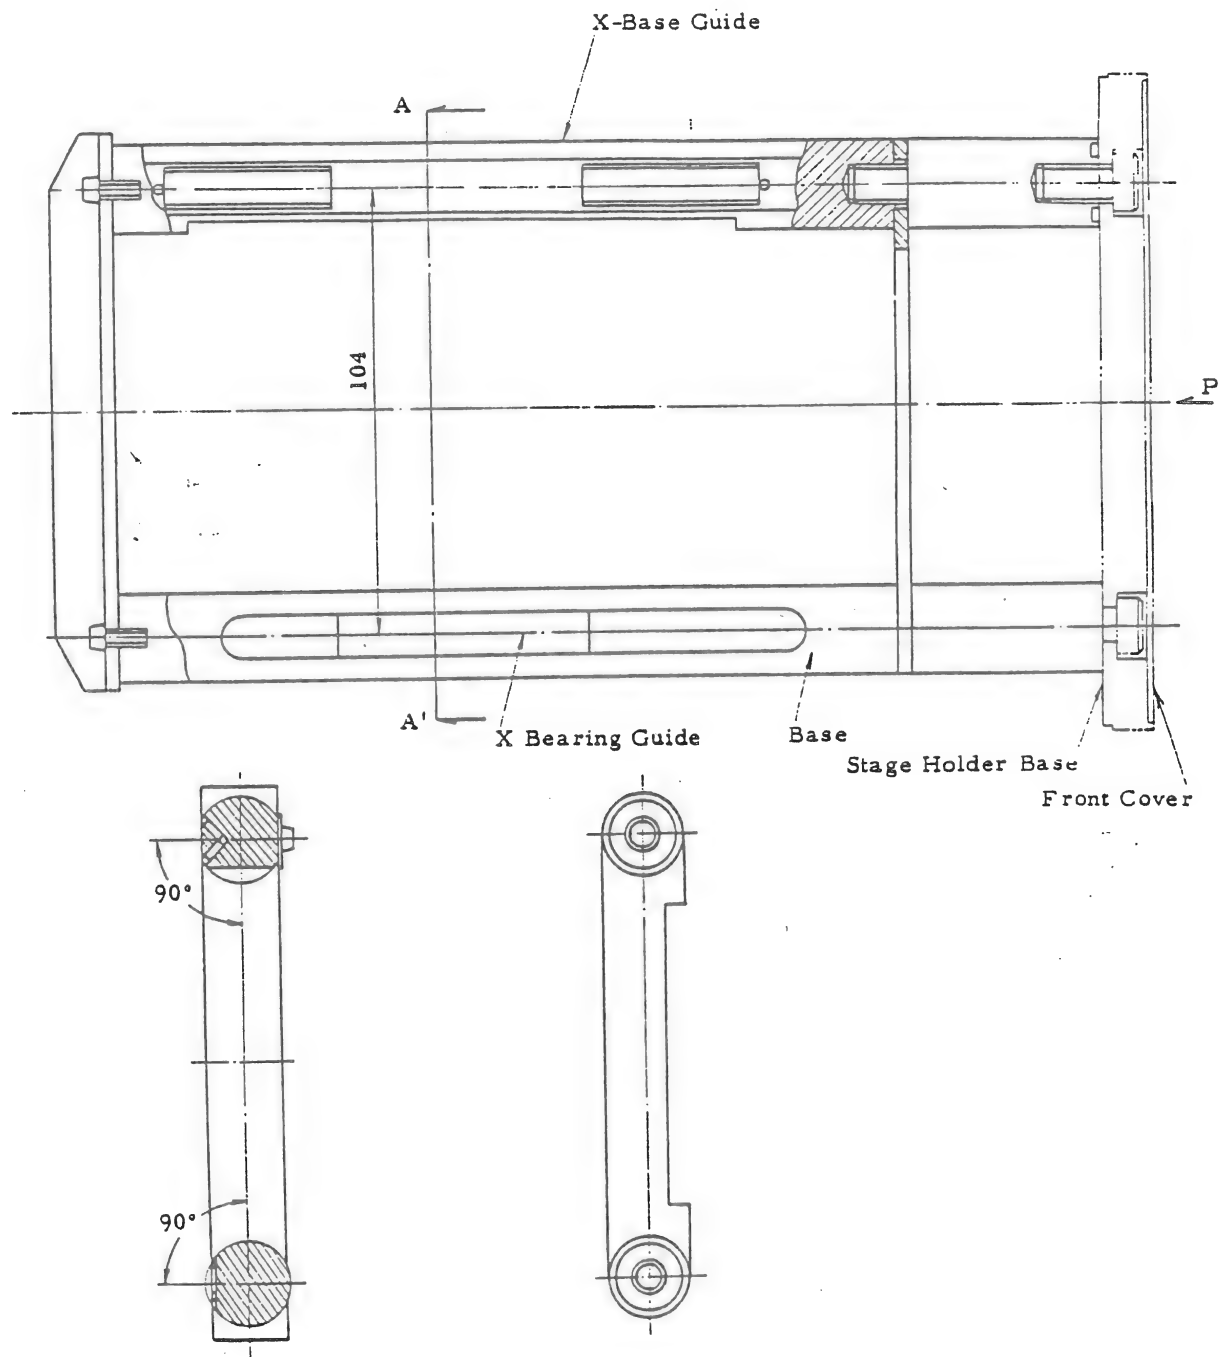

Fig. 4-20 Construction of X-Base Guide Assembly
- (e) X-base guide assembly (Fig. 4-20)